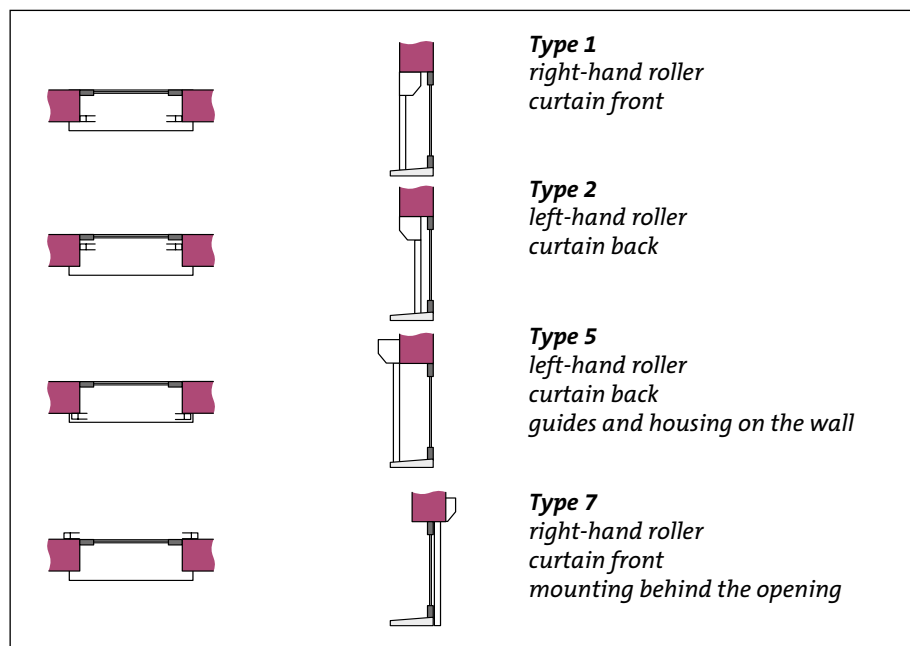

Fig. 3 : Assembly as surface mounted roller shutter
- Surface mounted, there are four possibilities: mounting type 1, 2, 5 en 7: see figure 3